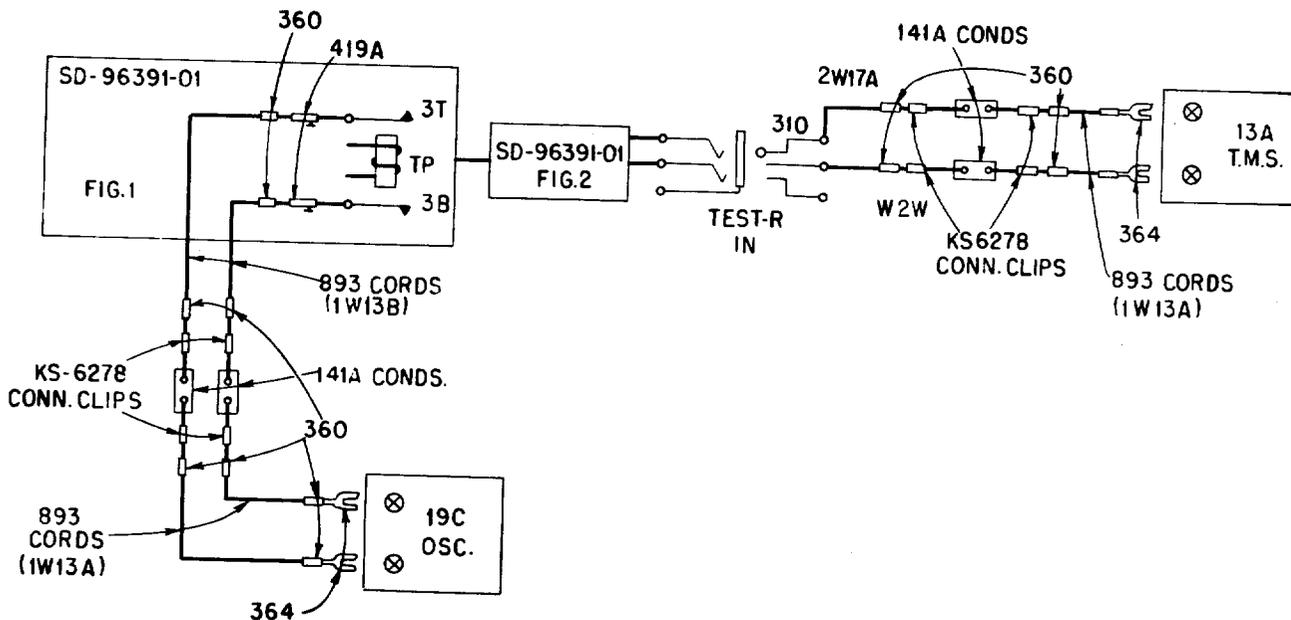

Fig. 2
1.02 This section is reissued to rearrange the sequence of performing Steps 1 to 3 inclusive of Part 3 Method to reduce the test set warm-up time, and to add patching cord code numbers to Fig. 2.
11 Provide connections as shown in Fig. 2.
- 12 Remove all connections established in Fig. 2.